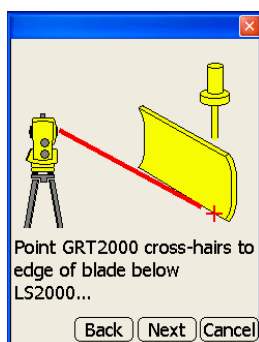

Figure 5-18. Point Telescope Cross-hairs at Cutting Edge
11. Move the GRT-2000 telescope so the cross-hairs rest on the cutting edge. Press **Next** to measure the vertical height from the prism to the cutting edge (Figure 5-18).